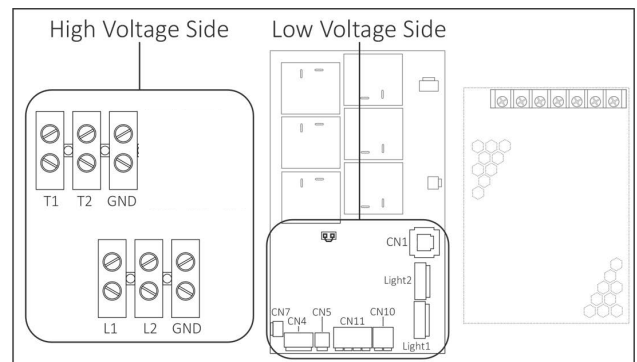

Figure 15. CB Box Interior
11. Route the other end of the RJ11 control cable through an access hole located on the bottom of the low-voltage side of the CB Box. See Figure 15.